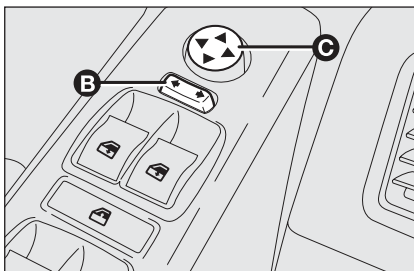

fig. 58
- use switch **B**-fig. 58 to select the mirror required (left or right);